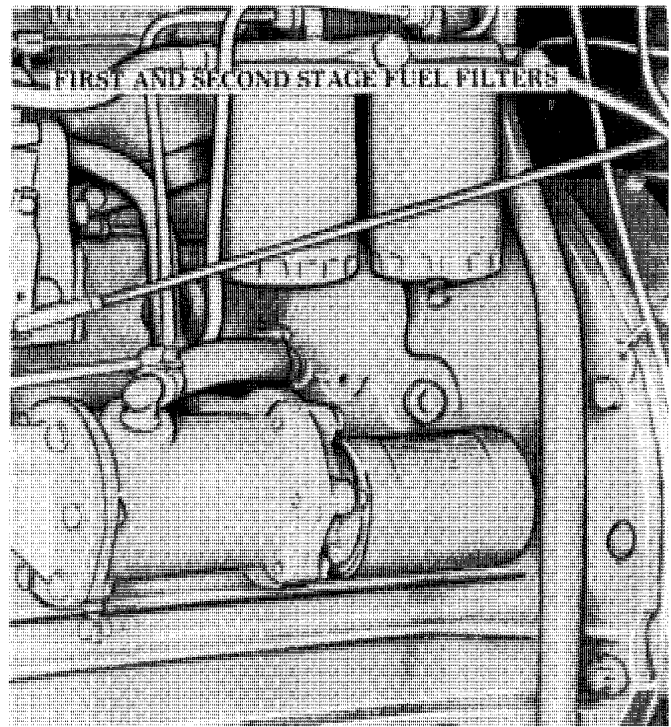

Figure 19
1. See Figure 19. Clean filter bodies and surrounding area. Remove both filters with a strap wrench. Discard the filters.